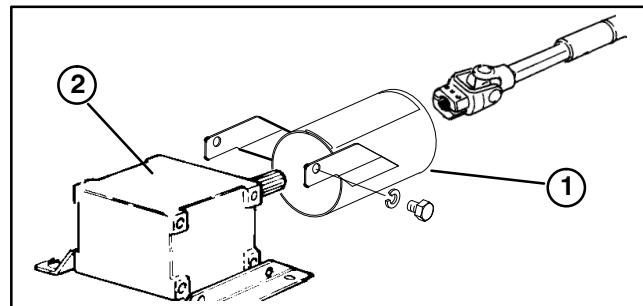

Figure 6
MOUNT PTO SHAFT GUARD AND CONNECT PTO SHAFT TO CUTTING UNIT GEAR BOX (Model 30553 TE Only) (Fig. 6)
1. Remove (2) capscrews and lockwashers securing PTO guard mounting brackets to gearbox (Fig. 6). Retain fasteners for re-installation.
2. Slide PTO shaft guard onto PTO shaft, positioning guard as shown in figure 6.